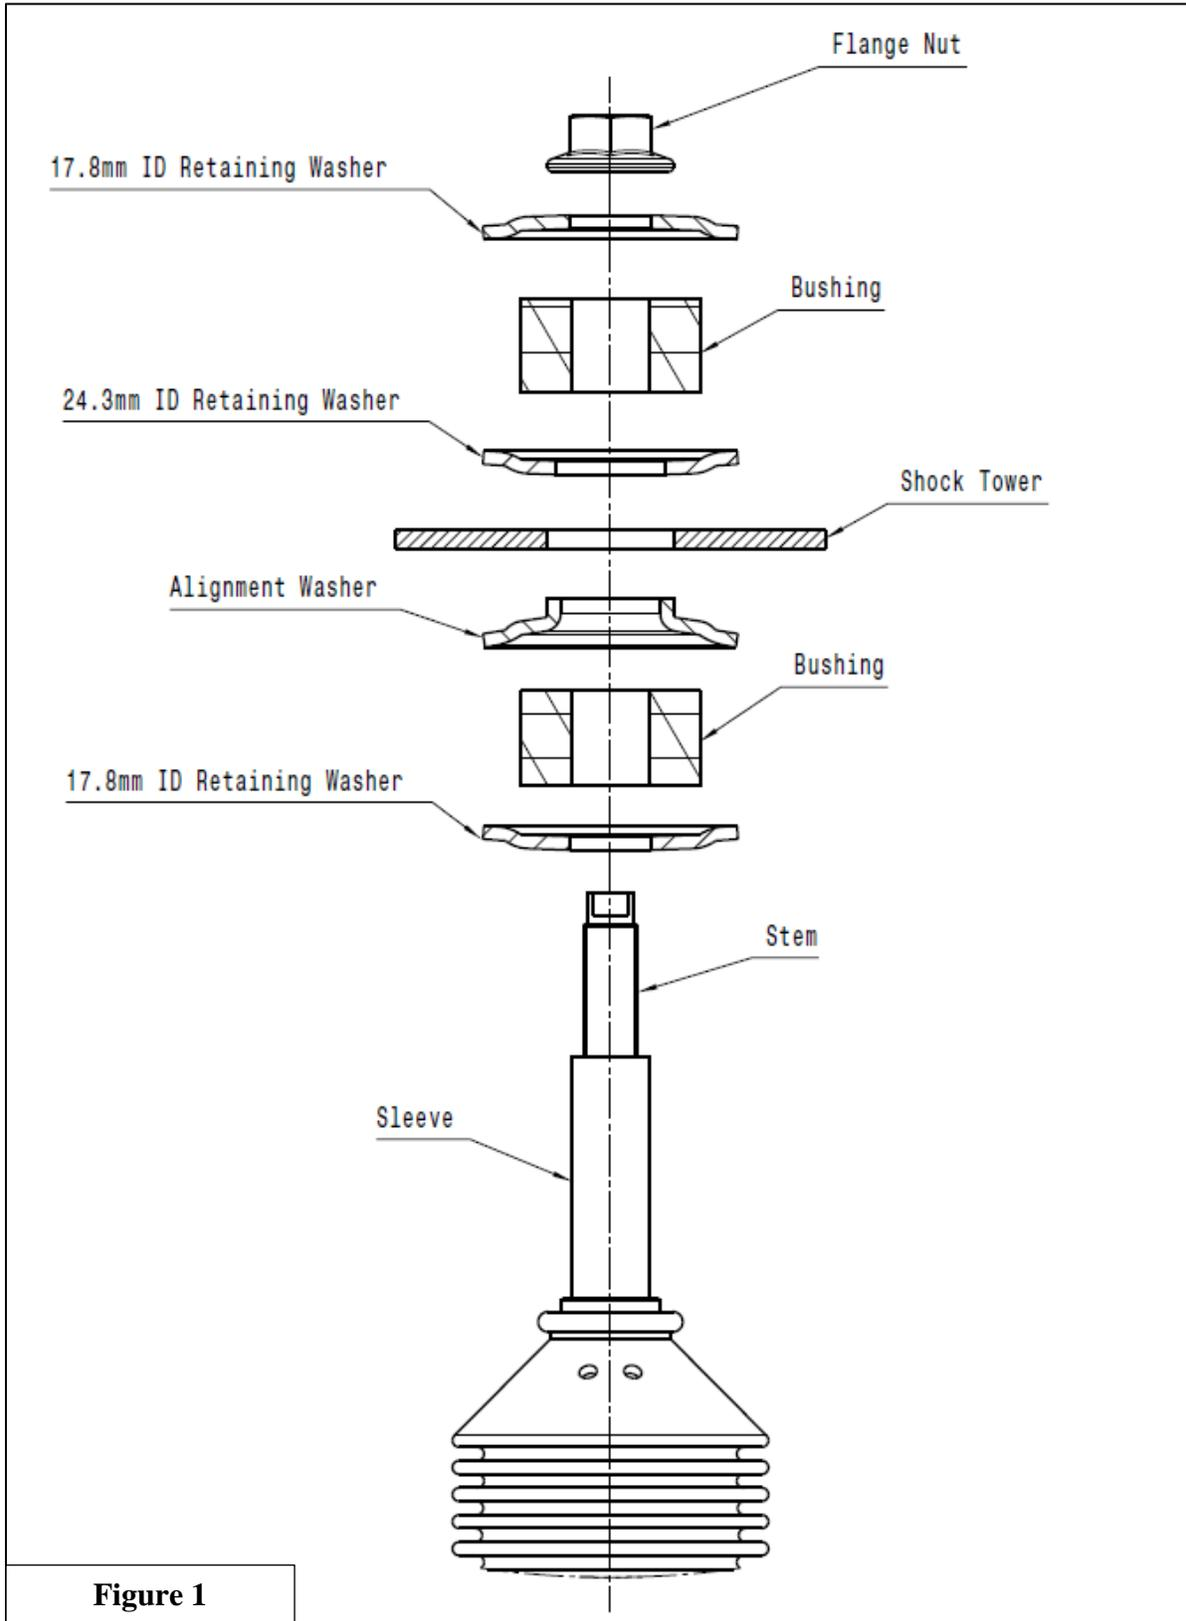

Figure 1
- B. As depicted in **Figure 1**: slide the 17mm OD sleeve (BOM item #6) over the threaded pin on the piston rod. Then slide one of the retaining washers concave up (BOM item #2), one of the bushings (BOM item #3) and the alignment washer (BOM item #5) over the 17mm OD sleeve (BOM item #6).
- C. Slide the threaded pin of the piston rod through the chassis mount and carefully center the alignment washer (BOM item #5) in the mount hole. Slide the first retaining washer (BOM item #4) over the threaded pin concave up, followed by the second upper bushing (BOM item #3). Then slide the second retaining washer (BOM item #2) over the threaded pin concave down as shown in **Figure 1**. Thread the M12x1.25 flange nut (BOM item #1) onto the threaded pin. Using an open end or box end wrench, thread the flange nut down the threaded pin until all the gap in the cushions is taken up as shown below. Do not thread the flange nut all the way to the stop point at this time.